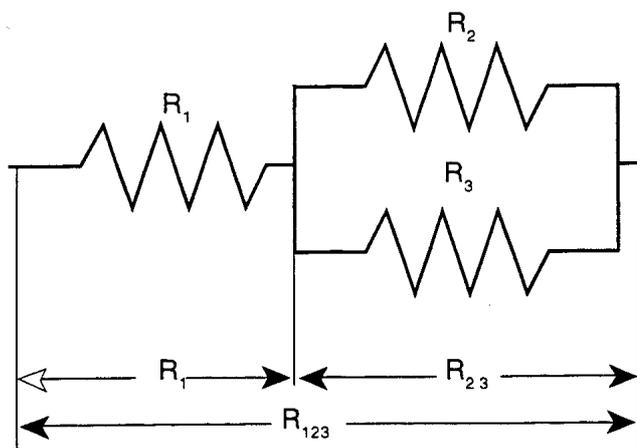

Figure 14.13: Resistors in Combination Circuit
7. Now construct a *combination circuit* as in Figure 14.13. Measure and record the resistance values shown in the figure. Record these values in Table 14.4 and compare with calculated values.